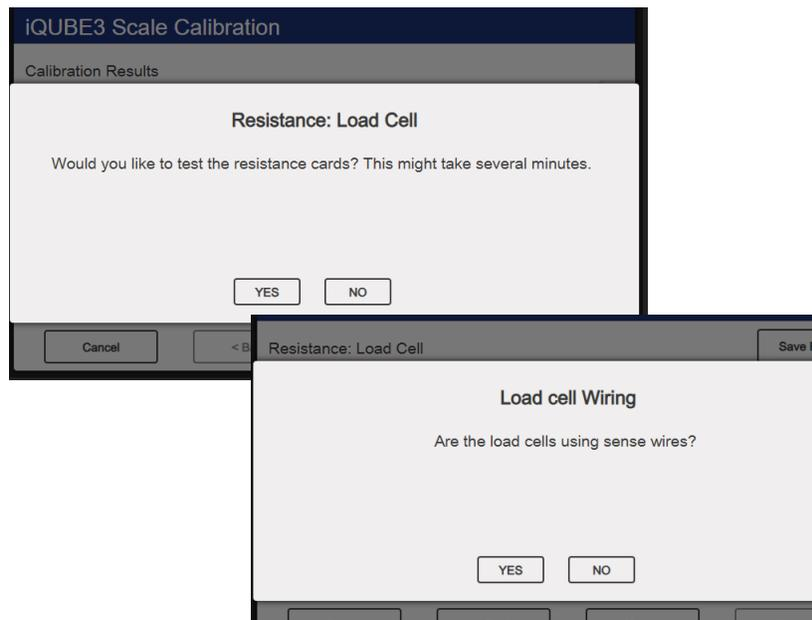

Figure 4-17. iQUBE3 Scale Calibration Menu
- If resistance boards are installed, **Resistance: Load Cell** prompt displays. (Figure 4-17 on page 58)